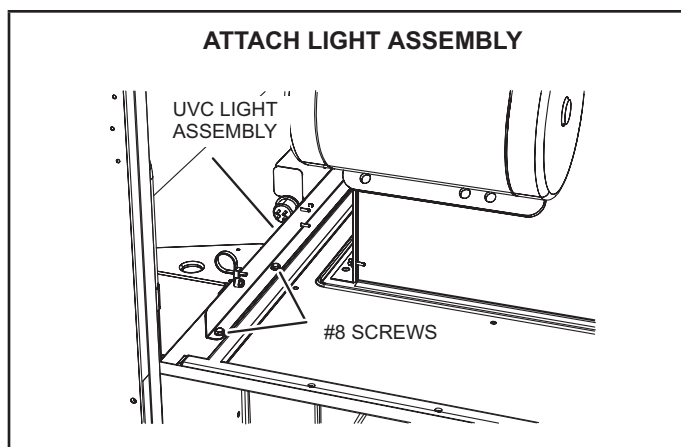

FIGURE 43
- 8 - Carefully place the UVC assembly on the blower deck. Line up the mounting holes on the UVC assembly with the mounting holes on the blower deck. See FIGURE 43. Use the #10 screws provided to attach the UVC assembly in place.